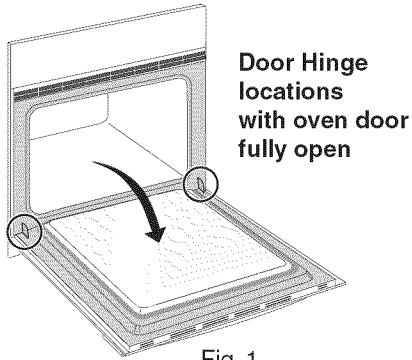

Fig. 1
1. Open oven door completely (horizontal with floor- See Fig. 1).
3. Fully open the oven door (horizontal with floor- See Fig. 1).